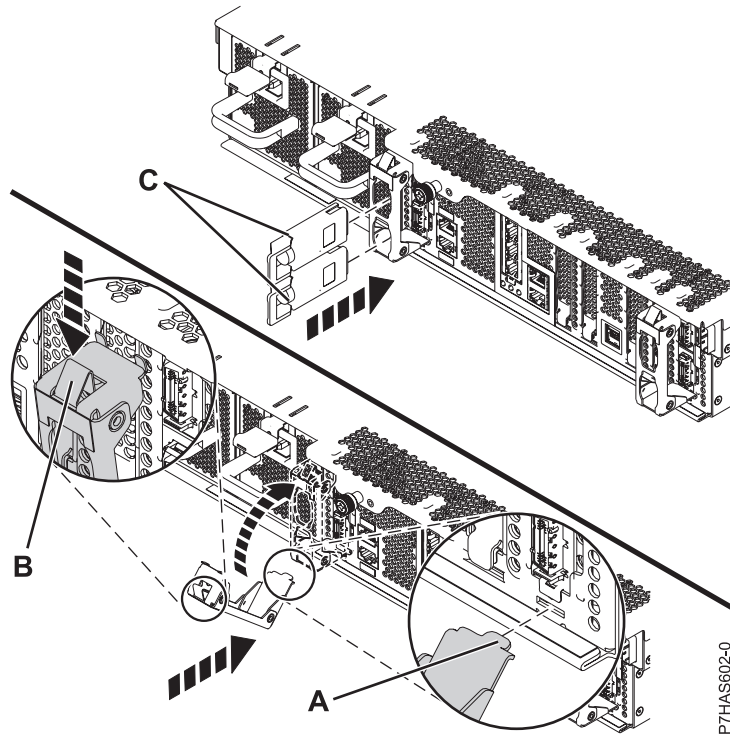

Figure 8. Cable retention bracket installation
8. Tilt the cable retention bracket (A), shown in Figure 8 on page 10, to hook the tab at the top of the bracket into the slot in the assembly.